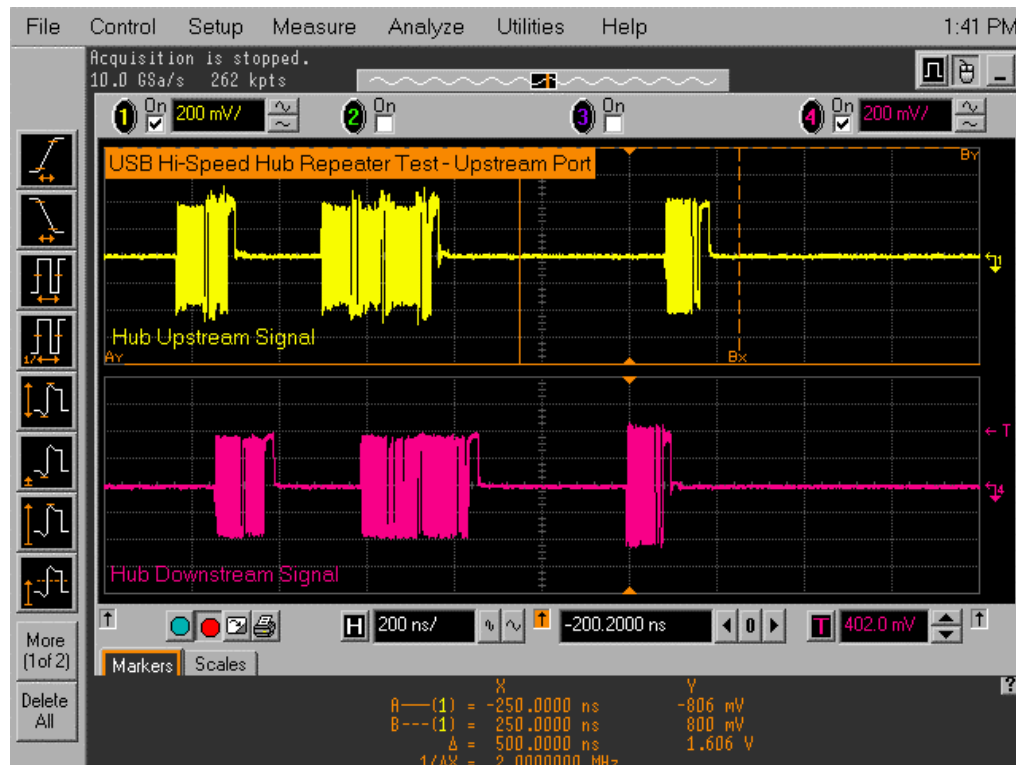

Figure 36. Packet Repeated to Upstream – Top Trace
8. The captured oscilloscope sample should appear as in Figure 36.